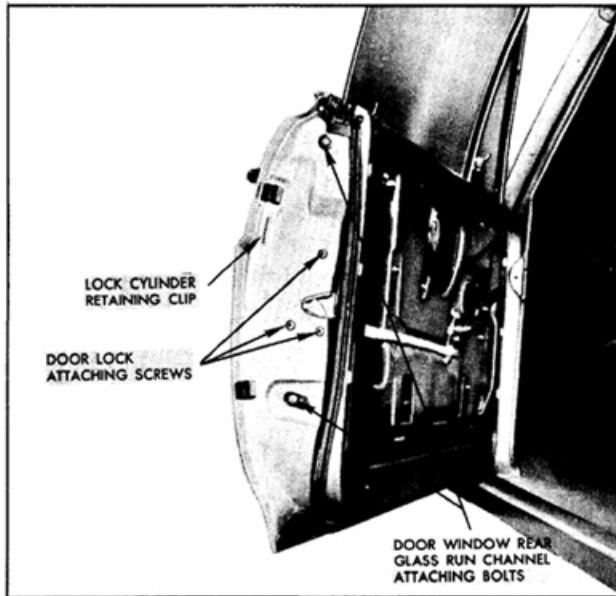

Fig. 16-345 Front Door Lock Pillar Hardware
2. With a screwdriver or other suitable flat-bladed tool, slide lock cylinder retaining clip (located on door lock pillar panel) out of engagement sufficiently to allow removal of cylinder and remove cylinder and gasket. (Fig. 16-345)